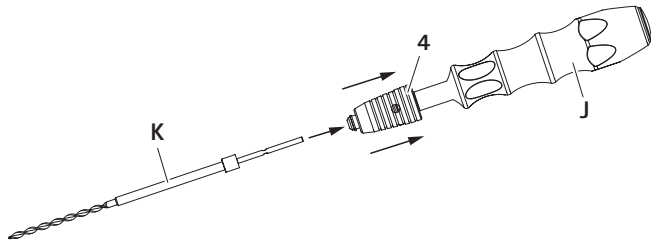

Fig. 12
- Pull back locking sleeve 4 against the spring pressure, in the direction indicated by the arrow, and hold it there, see Fig. 12.